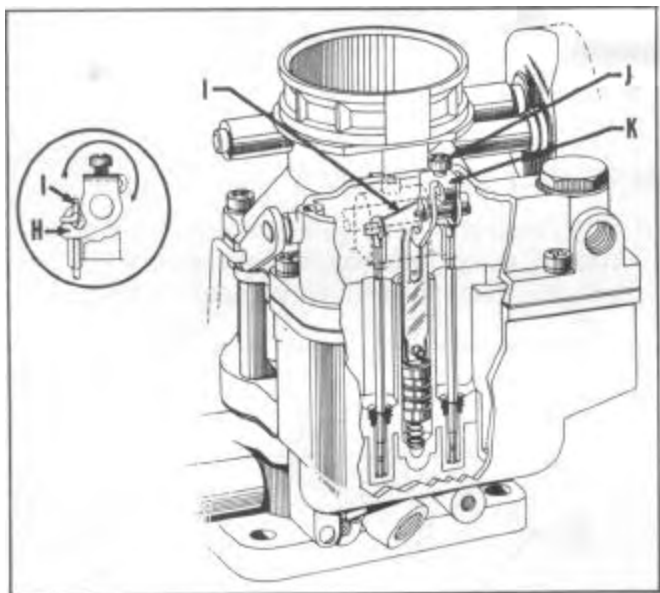

FIGURE 31
1. With the throttle lever set screw backed out as in "Pump Adjustment", press down on vacuumer link (1), Figure 31, until metering rods bottom.
2. With metering rods bottoming, revolve metering arm (K) until lip (H) (see insert) contacts vacuumer link (I). Hold arm (K) towards connector link side and carefully tighten the metering rod arm set screw (J).